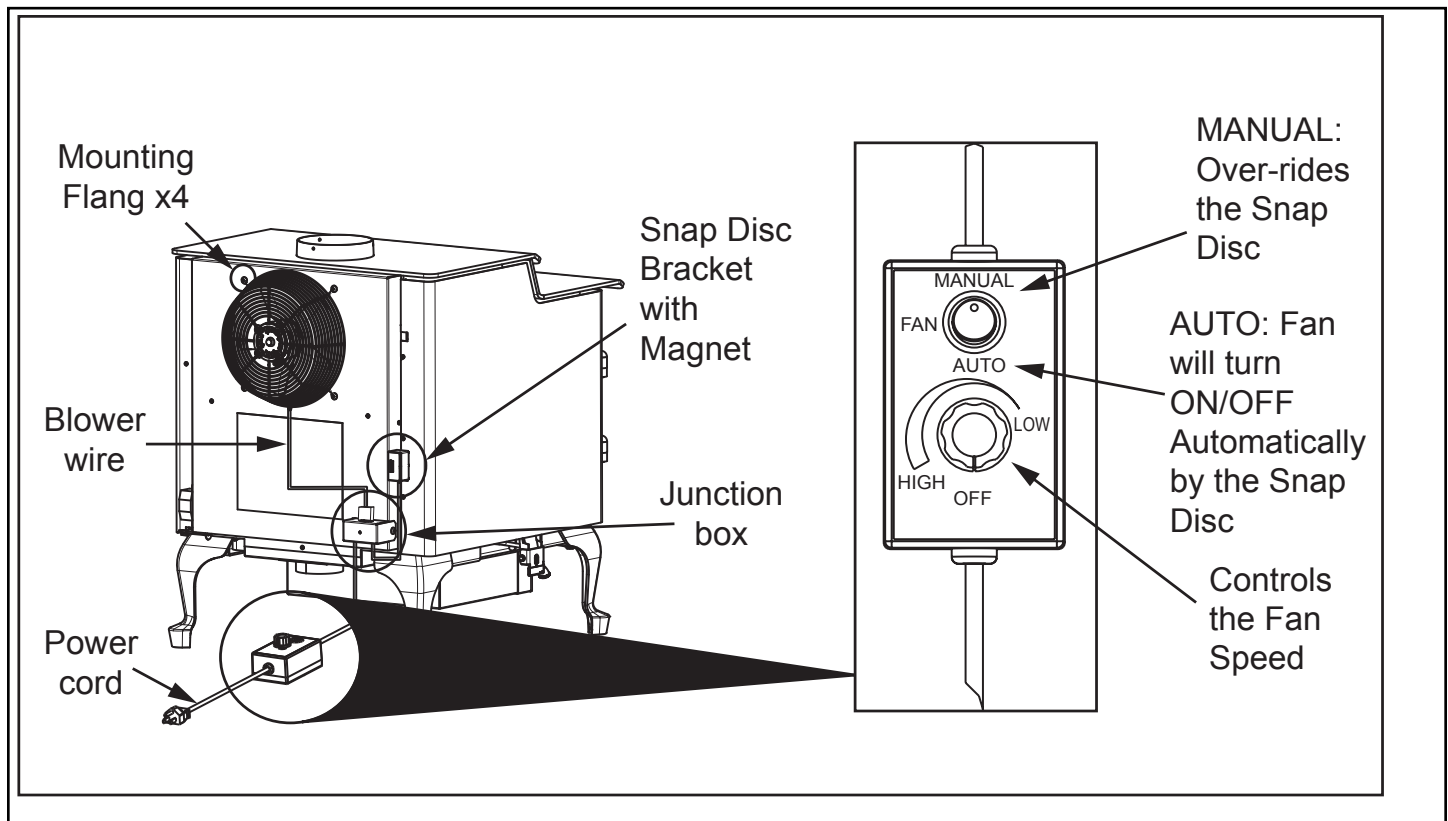

Figure 24.1
**NOTE:** Blower wire should be positioned towards the bottom as shown in **Figure 24.1**
4. Using #2 Phillips head screwdriver and 4x screws secure blower to appliance (**Figure 24.1**).
6. Install junction box to the bottom right back of the appliance shown in **Figure 24.1** by inserting tab into slot and aligning flange; secure with 1x screw by using #2 Phillips head screwdriver.
7. Place the bracket containing the snap disc and magnet lower right side of the appliance as shown is **Figure 24.1**.